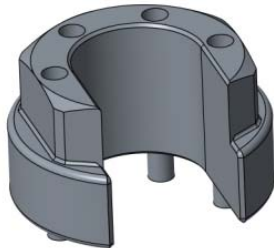

Figure 4: TL-8780-JN
- b. For NT-2000J use TL-8780-JN (See Figure 4).